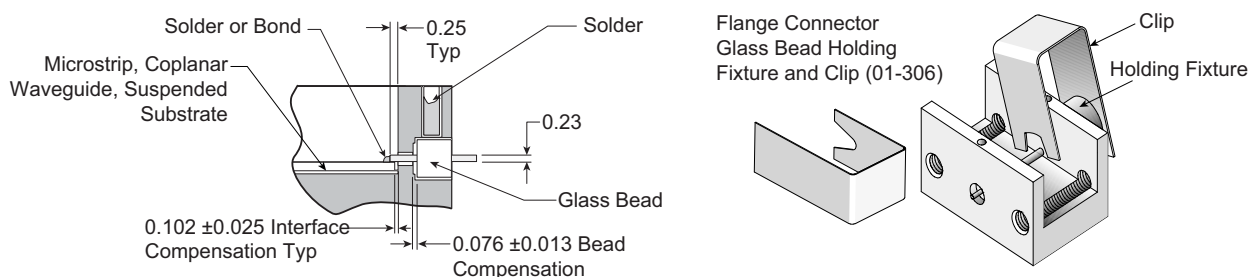

Figure 5-2. V103F-R Glass Bead Assembly
1. Install the microstrip into the housing (see Figure 5-2 for dimensional tolerances around the glass bead).
5. Secure the holding fixture in place by using the spring clip furnished with the fixture (Figure 5-2). Position the spring clip so as not to obstruct the solder access hole in the housing. Ensure that the glass bead is centered and that it is making good contact with the microstrip.